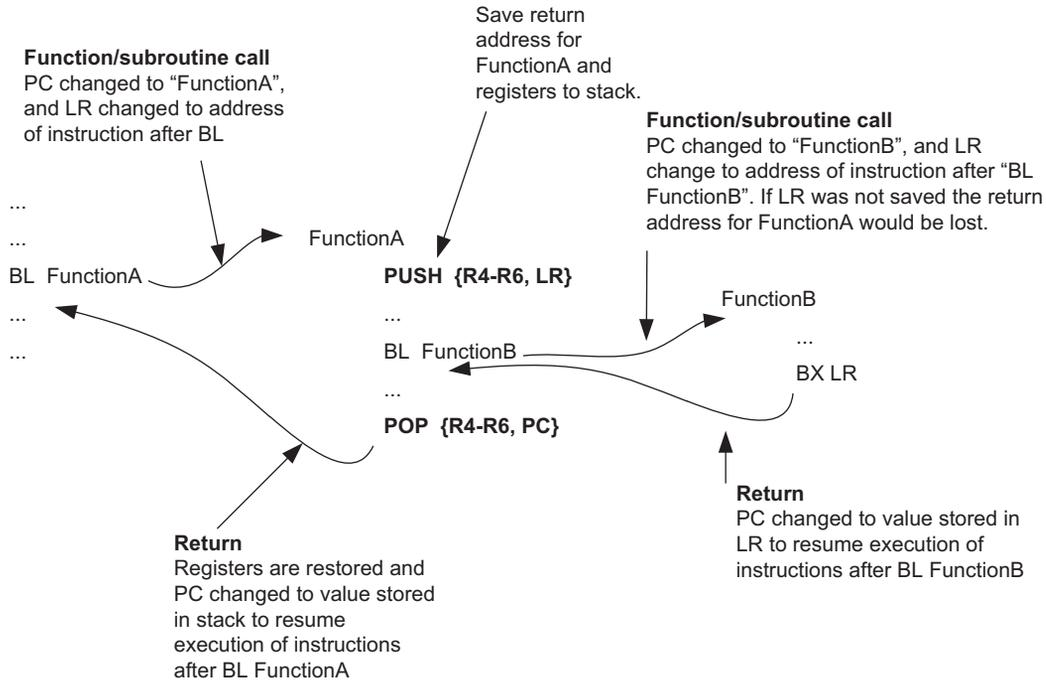

Figure 6.3: Using push and pop of multiple registers in functions.
operation to low registers and the Program Counter (PC) in one instruction. This allows you to combine register values restore and return with a single instruction. For example, if the registers R4 to R6 are being modified in "FunctionA," and needed to be saved to the stack, we can write "FunctionA," as shown in Figure 6.3.